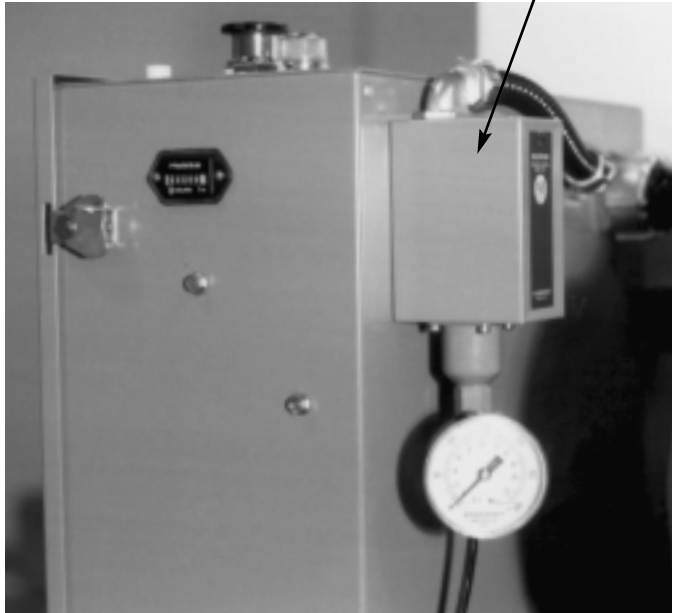
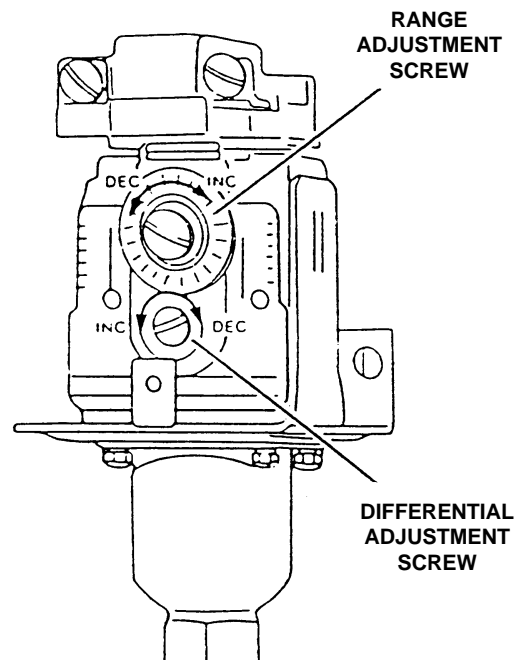

FIGURE 3.5-1 LOCATION OF PRESSURE SWITCH
FIGURE 3.5-2 NEMA 1 PRESSURE SWITCH (1PS)
4. Remove cover from pressure switch (See Figure 3.5-1). Adjust as required by turning range adjustment screw clockwise to increase and counterclockwise to decrease trip setting (See Figure 3.5-2). When 1PS trips, the compressor will unload. When the line pressure falls to the reset point of 1PS (about 12 psig/.8 bar), the unit should reload. The pressure switch differential is adjustable and factory set at about 12 psig (.8 bar) to meet the requirements of the average application.